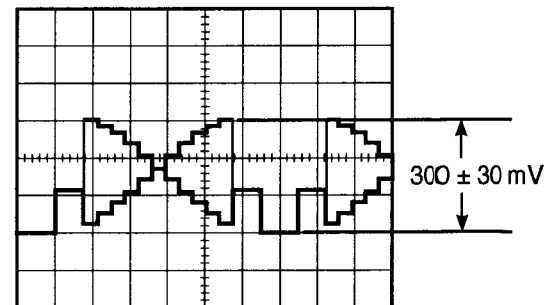

Fig. 5-13
- Set the Lens Iris so that the signal level at the pin 1 of CN2 becomes 300 ± 30 mV as shown in Fig. 5-13.